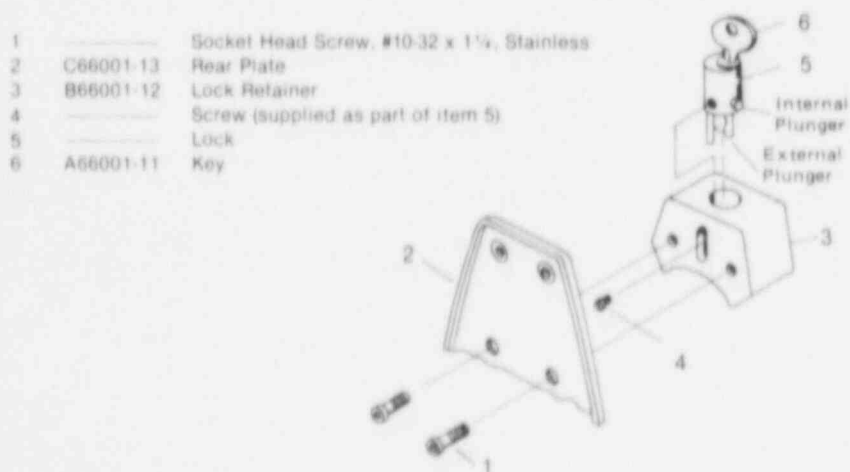

Figure 7.6 Lock Assembly—Exploded View
5. To disassemble the lock assembly, refer to Figure 7.6 for component identification and for order of removal. Remove the lock (5) from the lock retainer (3) by unscrewing the screw (4) and turning the key about 90°.